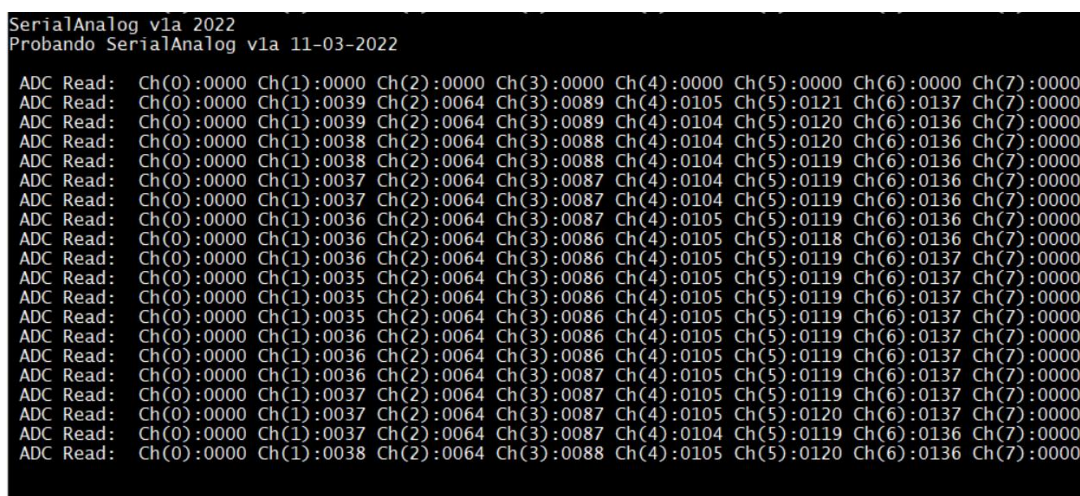

Figure 22 –TeraTerm output of serialanog1 using the above settings
3.b.5.2 Power on CL2bm1 connected to host machine with open terminal program: Finally, turn CL2bm1 power on again, and the terminal output should show something similar to Figure 22. At intervals coincident with LED Blinks, the sampled channels of the ADC inputs on **JA-1** (See Circled JA-1 header in Appendix I diagram) are read, since the ADC reference is connected to AVCC = +5Va on the board, the physical range is 0 to 5 V, referenced to ground, and the setup configures for single-ended ADC readings of Ch(0) to Ch(7). In this test, Ch(0) and Ch(7) where “jumpared” to ground, therefore their readings are 0.